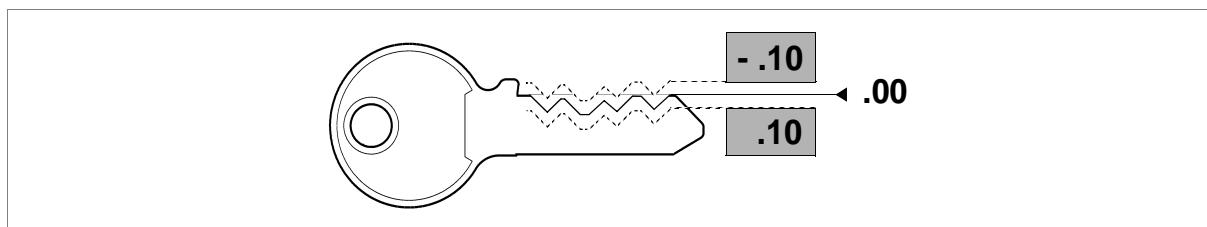

Fig. 11
0 key: press for about 1 second to zero the tracer point position. E.g. if the machine has already been gauged, but the cutting depth requires alteration (increasing or decreasing values), loosen the screw (J) and adjust the ring nut (O). The display will show the value (positive or negative), expressed in hundredths of a millimetre (or thousandths of an inch) (fig.11); a mm scale goes to +/- .99 then passes to 1.00, when the value on the display will flash. The value can no longer be altered because such a big adjustment is not allowed.